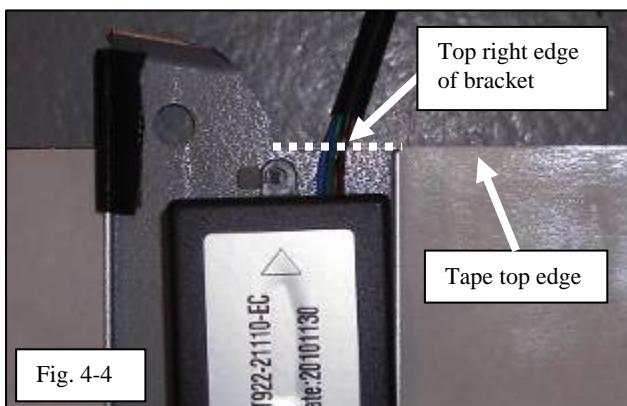

Fig. 4-4
(7) Align the large foam tape to the ECU so that the top edge of the tape lines up to the top right edge of the bracket. (Fig. 4-4)